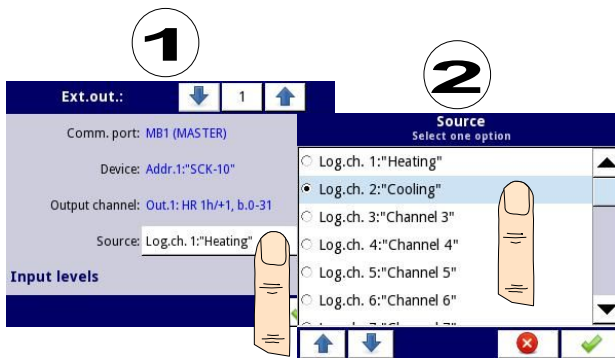

Fig. 7.101. Sample selection of **Source** for External output
- **Source** - this parameter allows to choose a source for an external output from the logical channel list (see Fig. 7.101),